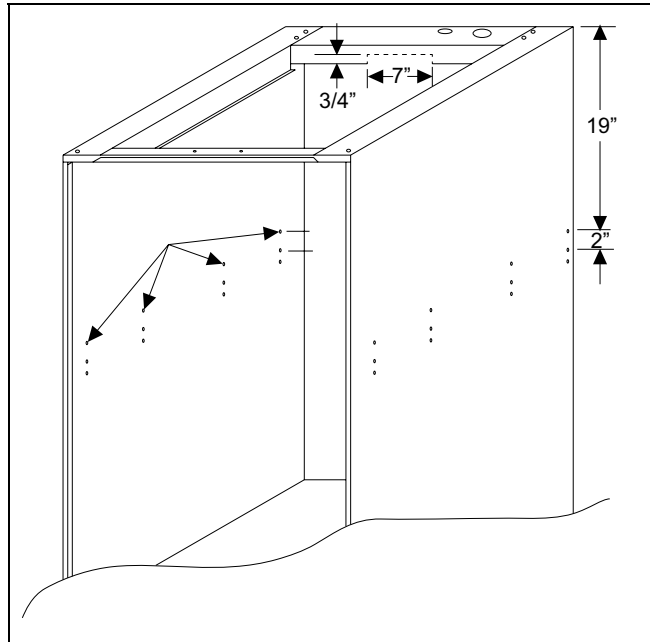

FIGURE 9
1. Drill eight holes (.120" diameter) on the sides of the EB furnace casing 2" above the existing upper row of holes for coil shelf. See Figure 9.
2. Cut a notch 7" wide x 3/4" high on the back flange of the filter housing to facilitate A-Coil installation. See Figure 9.